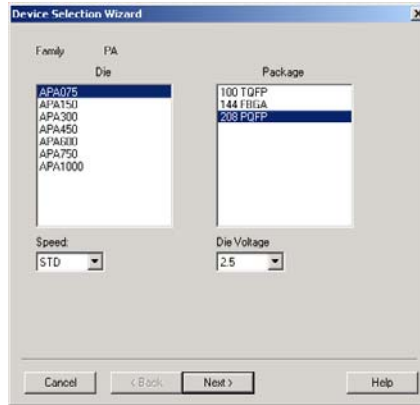

Figure 2-22. Device Selection Wizard
2. Compile the design. Click **Compile** in the **Design Flow** window. This starts the DSW (**Device Selection Wizard**) shown in Figure 2-22.